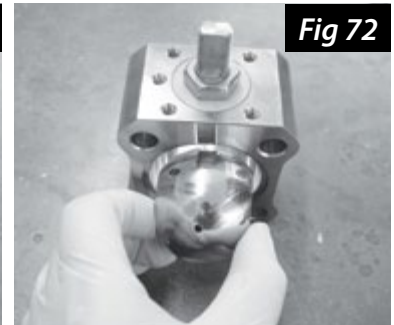

Fig 72
8. If you have not already done so, rotate the valve stem and ball to the "closed" position to remove the ball. Gently push the ball to remove it from the center section of the valve (Fig 72). Place the ball in a safe location for reuse or if replacing the ball it can now be discarded. **Note: If the ball is damaged due to corrosion or some other means, you can purchase a new one by contacting A&N Corporation's sales department.**